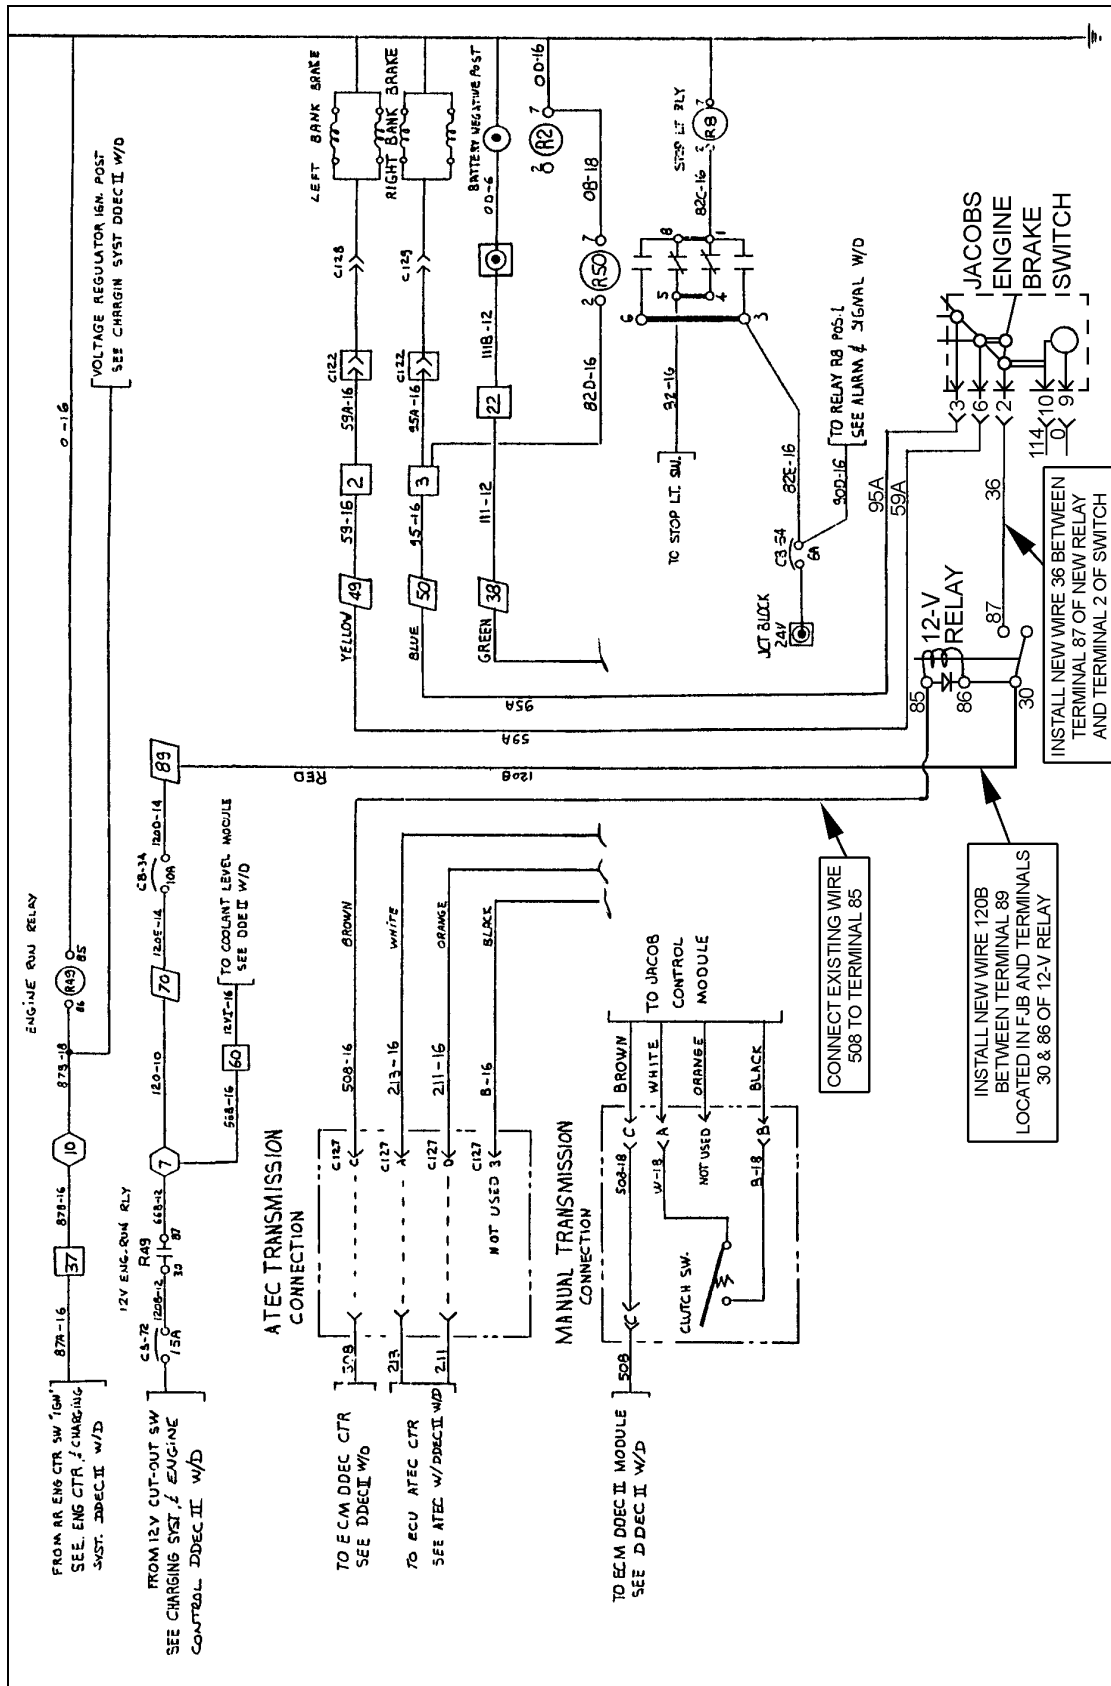

FIGURE 4
6. Perform the required connections as indicated in figure 4.